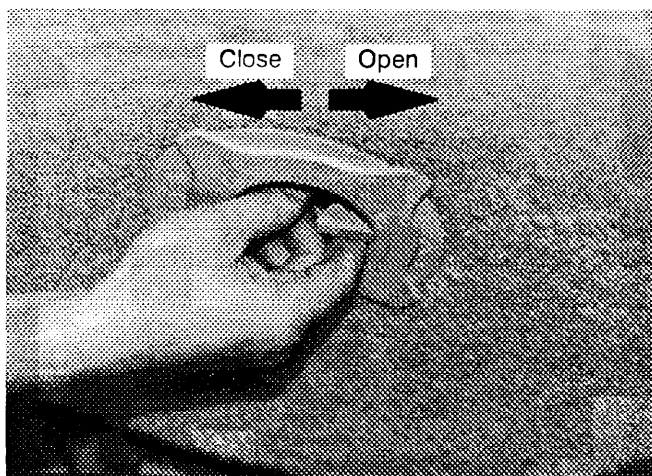

FIG. 3.
3. Remove the plastic centerlock from the pad driver by turning it clockwise. Position the pad accurately centered on the pad driver, and screw the centerlock in place counter-clockwise until it is tight. (Figure 3)
1. Remove burnishing pad. Clean and replace or install a new pad. (Refer to Figure 3)